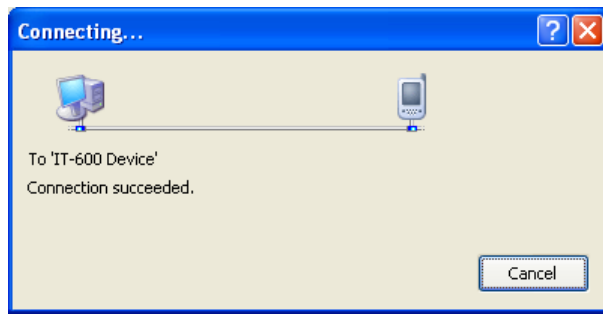

Figure 5.30
9. Choose **IT-600 Device** in the list of **Devices:** and click **Connect** button. The screen in Figure 5.30 if appear indicates the success of connection establishment.